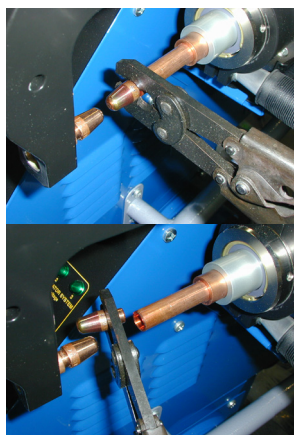

Figure 5.6c: Optional Weld Cap Removal Tool
**NOTE:** An optional welding electrode cap removal tool is available, which makes cap removal easy (*fig. 5.6c*). You can order the cap removal tool from your local distributor or online at: [www.prospot.com](http://www.prospot.com)